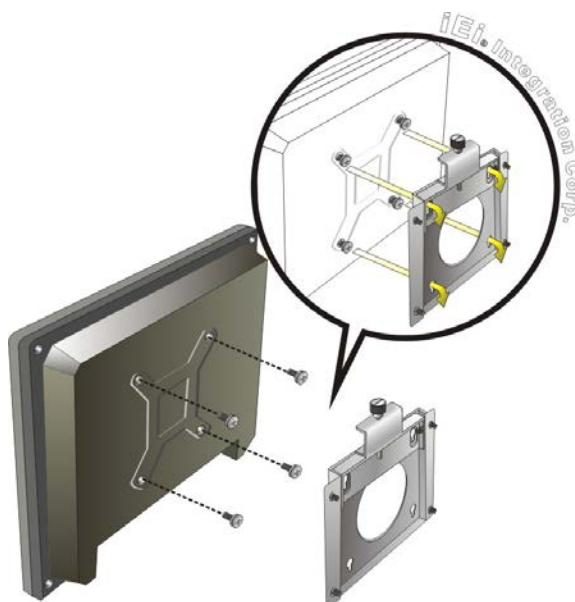

Figure 4-17: Chassis Support Screws
Step 6: Insert the four monitor mounting screws provided in the wall mount kit into the four screw holes on the real panel of the flat bezel panel PC and tighten until the screw shank is secured against the rear panel (**Figure 4-17**).
Step 8: Carefully insert the screws through the holes and gently pull the monitor downwards until the monitor rests securely in the slotted holes (**Figure 4-17**). Ensure that all four of the mounting screws fit snugly into their respective slotted holes.